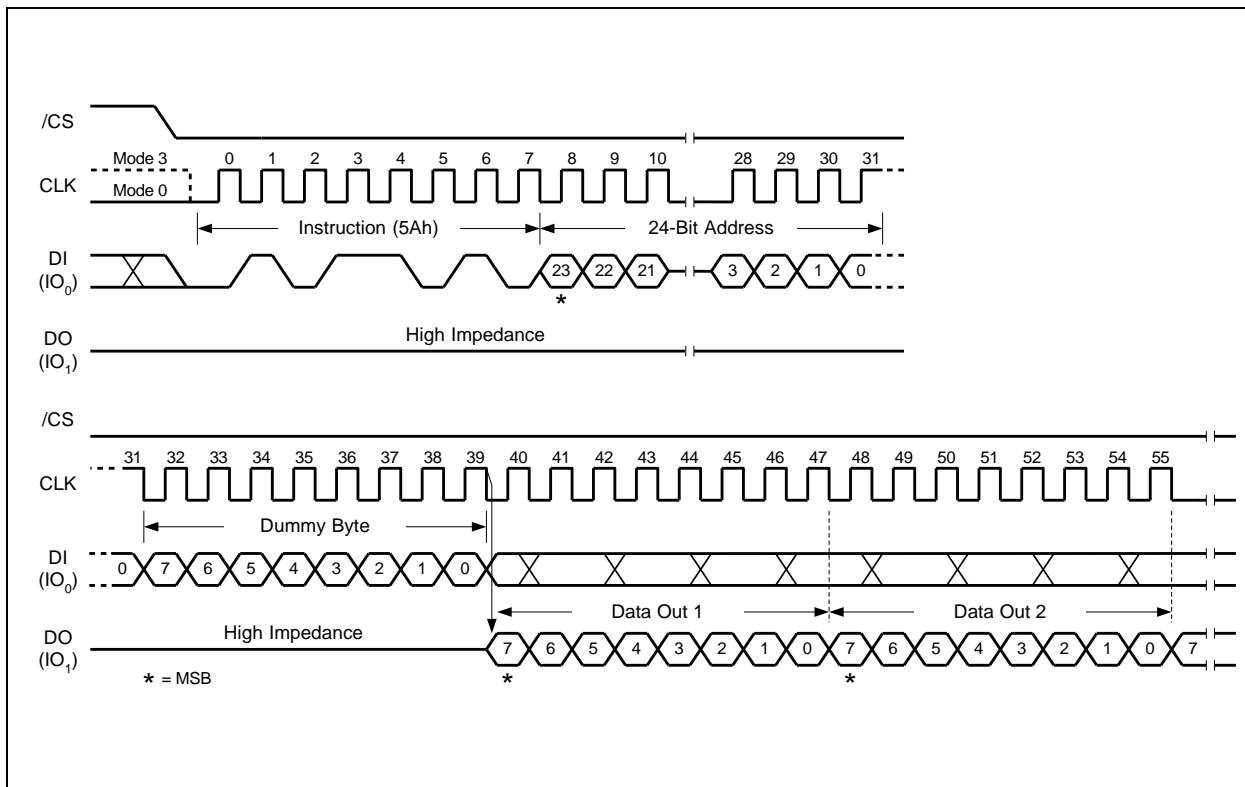

Figure 32. Read SFDP Register Instruction Sequence Diagram (SPI mode only)
The Read SFDP instruction is initiated by driving the /CS pin low and shifting the instruction code “5Ah” followed by a 24-bit address (A23-A0)(1) into the DI pin. Eight “dummy” clocks are also required before the SFDP register contents are shifted out on the falling edge of the 40th CLK with most significant bit (MSB) first as shown in Figure 32. For SFDP register values and descriptions, please refer to the Winbond Application Note for SFDP Definition table.